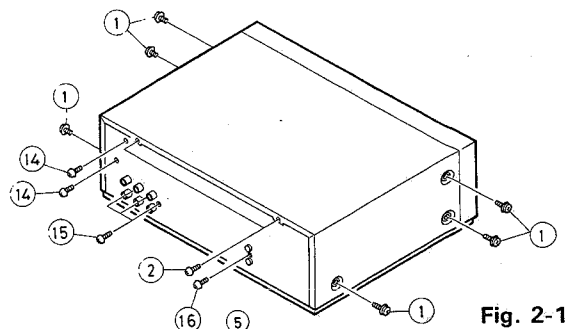

Fig. 2-1
2. Remove the two screws (14) retaining the volume on the back panel (see Figure 2-1).
3. Remove the three screws (15) retaining the pin jacks (see Figure 2-1).
4. Remove the screw (16) retaining the DCS jack (see Figure 2-1).